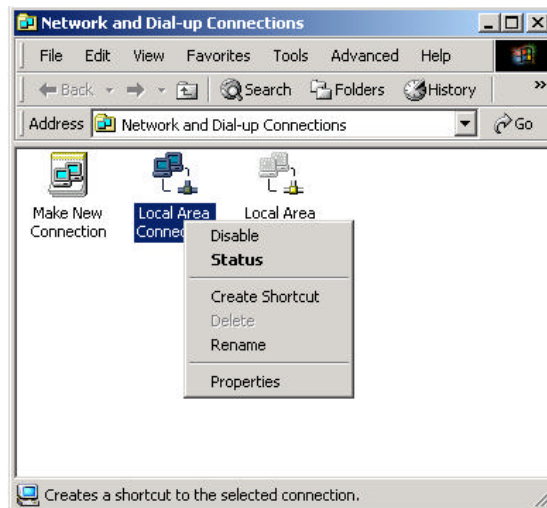

Figure C.1
1. Right click on the “**Local Area Connection**”, click “**Properties**” on the pop up menu, as shown in Figure C.1.